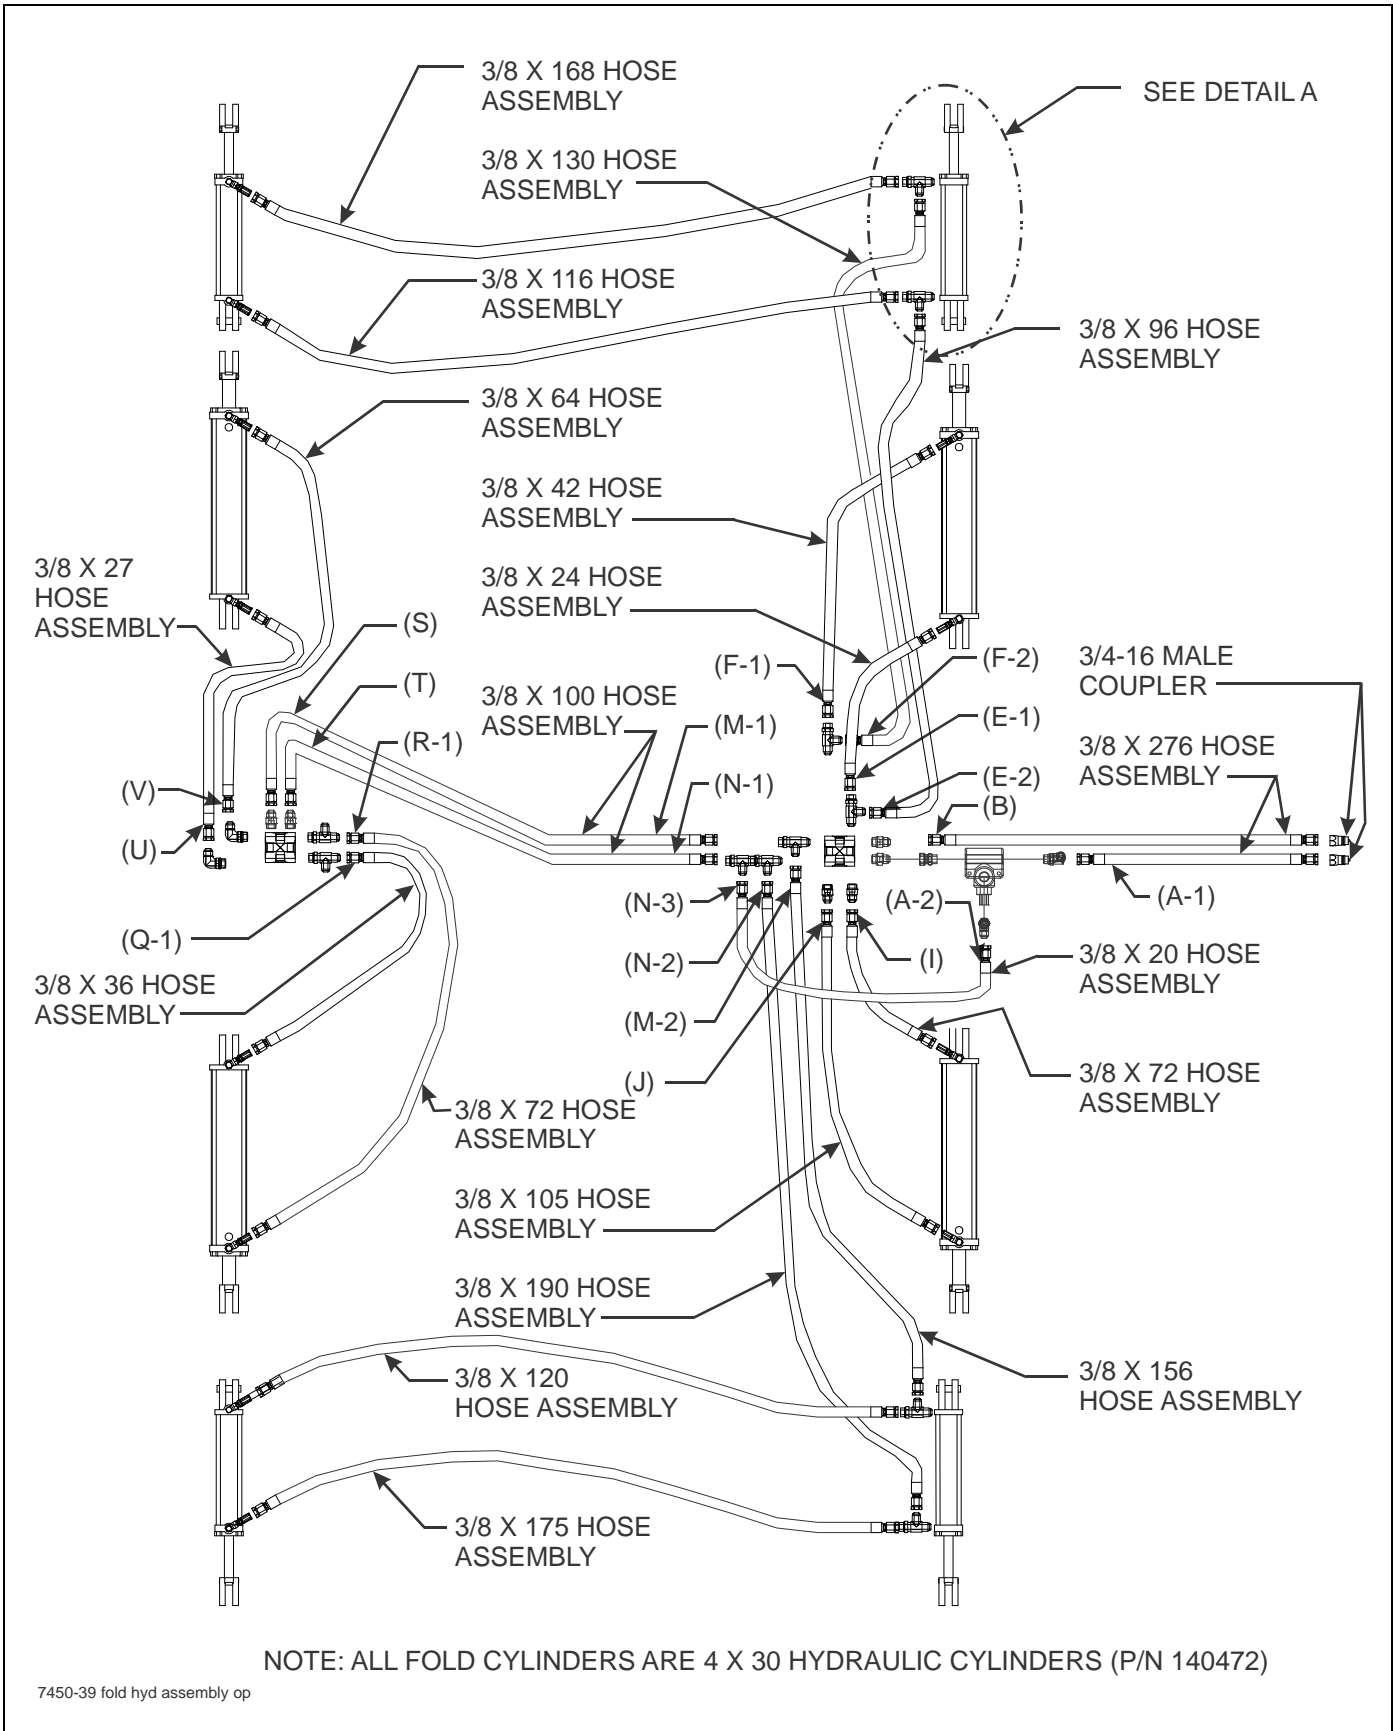
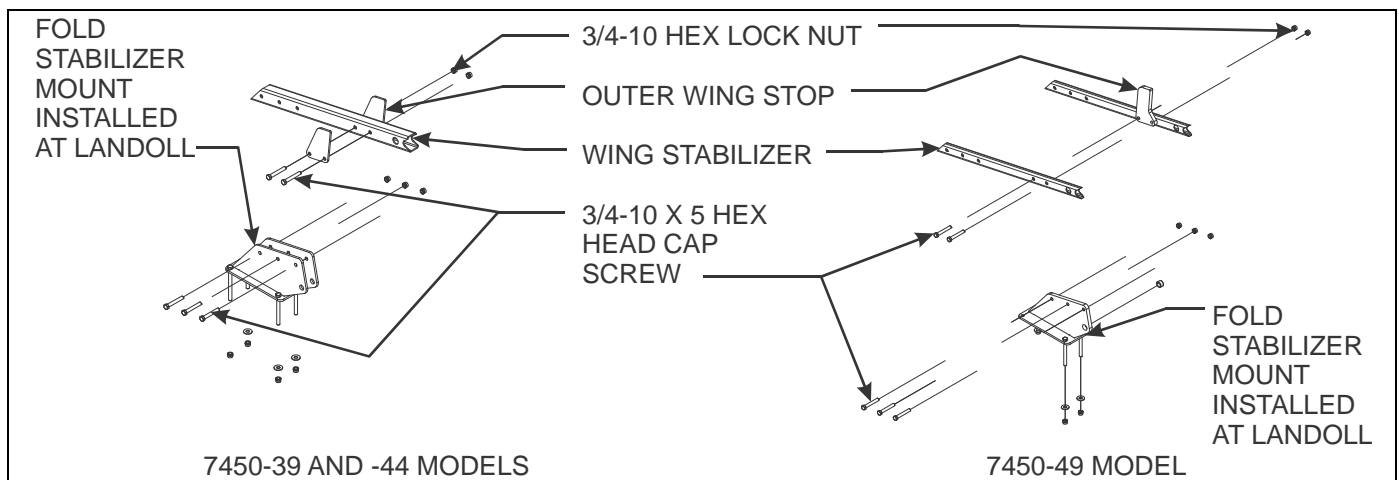

Figure 3-12: Fold Hydraulic Installation (39' Model)
Figure 3-20: Wing Stabilizer Bracket Mounting Installation
9. Install fold system hoses per **Figures 3-12 and 3-16**. Wrap fold system hoses with yellow hose wrap.
10. Install 1/32" restrictors, (2) 3/10" hoses, and couplers in the hydraulic leveler. Wrap hydraulic leveler hoses with black hose wrap.
11. Attach outer wing stops and wing stabilizer to fold stabilizer mount using 3/4-10 x 5 hex head cap screws and hex lock nuts (See **Figure 3-20**.)